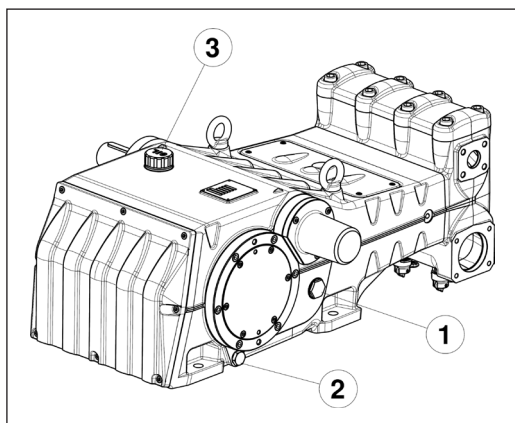

Fig. 3
Check the oil level via the indicators on the sides ①, Fig. 3.
If necessary, top up via the oil cap ③, Fig. 3.
The correct checking of the oil level is made with the pump not running, at room temperature. The oil change must be made with the pump at working temperature, removing the plug pos. ②, Fig. 3.
Use a temperature probe to be inserted into the oil drain plug pos. ② Fig. 3. See "ATEX EXPLOSION PROTECTION" manual.